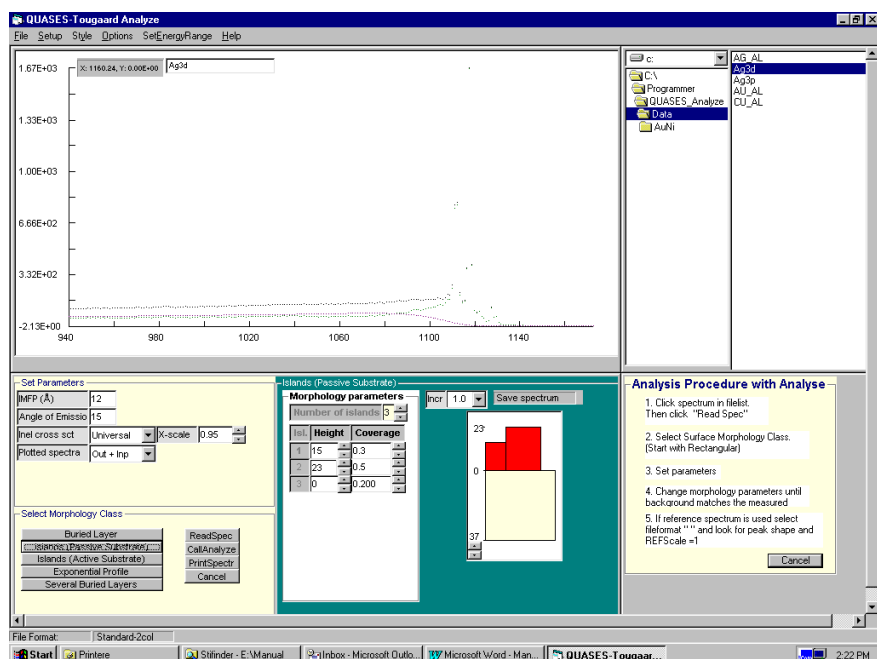

Figure 4.9
- Click the Up-Down arrows next to the text boxes. The increments each time the arrows are clicked is given by the value in the textbox **Incr**. The Increment may be changed by clicking the arrow next to the **Incr** textbox (see fig.4.9) and select a new value from the list.
Click the Up-Down arrows next to the text boxes. The height changes each time the arrows are clicked by the value in the textbox **Incr**. The Increment may be changed by clicking the arrow next to the **Incr** textbox (see fig.4.9) and select a new value from the list. The coverage changes by 0.05 for each mouse click.
Click the Up-Down arrow next to the text boxes. The height changes each time the arrows are clicked by the amount in the textbox **Incr**. The increment may be changed by clicking the arrow next to the **Incr** textbox (see fig.4.9) and select a new value from the list. The coverage changes by 0.05 for each mouse click.
Click the Up-Down arrows next to the text boxes. The **Decay Length** changes each time the arrows are clicked by the amount in the textbox **Incr**. The increment may be changed by clicking the arrow next to the **Incr** textbox (see fig.4.9) and select a new value from the list. The Surface and Bulk concentration change by 0.05 for each click.